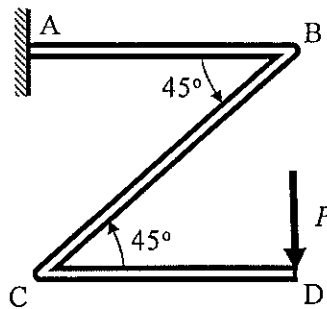

Figure 2
- (b) Figure 2 shows a “Z” shaped beam ABCD of with segments AB and CD having the same length L , and segment BC having a length $\sqrt{2}L$. All the three segments have the same flexural rigidity EI . The beam is fixed to a rigid wall at A and carries a vertical load P at D. Consider only bending effects. Assume linear elastic behavior of the structure.